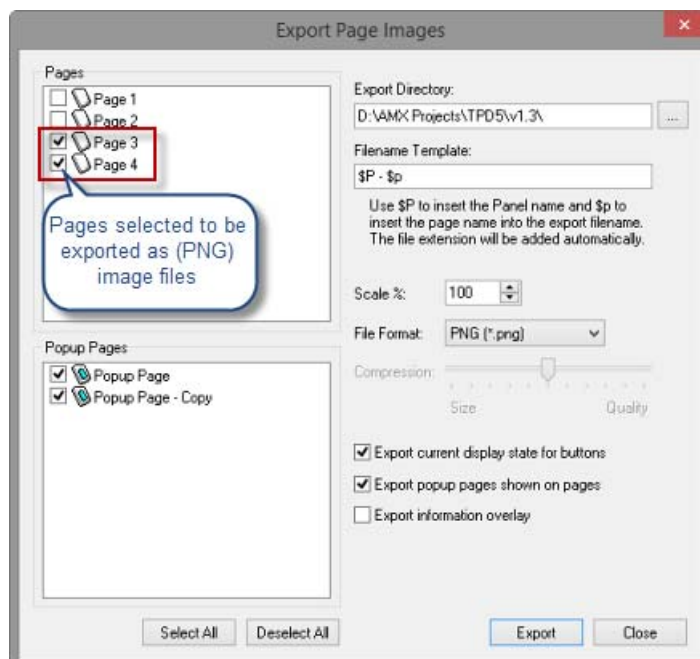

FIG. 52 Export Page Images dialog
1. Select **Panel > Export Page Images** to open the *Export Page Images* dialog (FIG. 52):